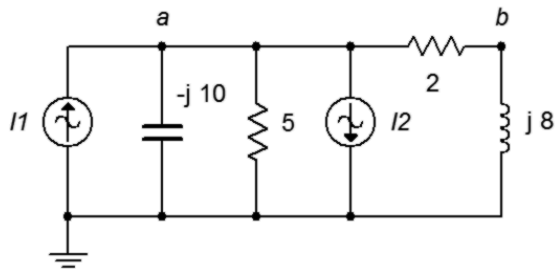

Figure 4.18
29. For the circuit of Figure 4.18, determine voltages v_a and v_b . $I_1 = 2\angle 45^\circ$ A and $I_2 = 0.5\angle 0^\circ$ A.
30. For the circuit of Figure 4.18, determine the currents through the two resistors. $I_1 = 2\angle 45^\circ$ A and $I_2 = 0.5\angle 0^\circ$ A.